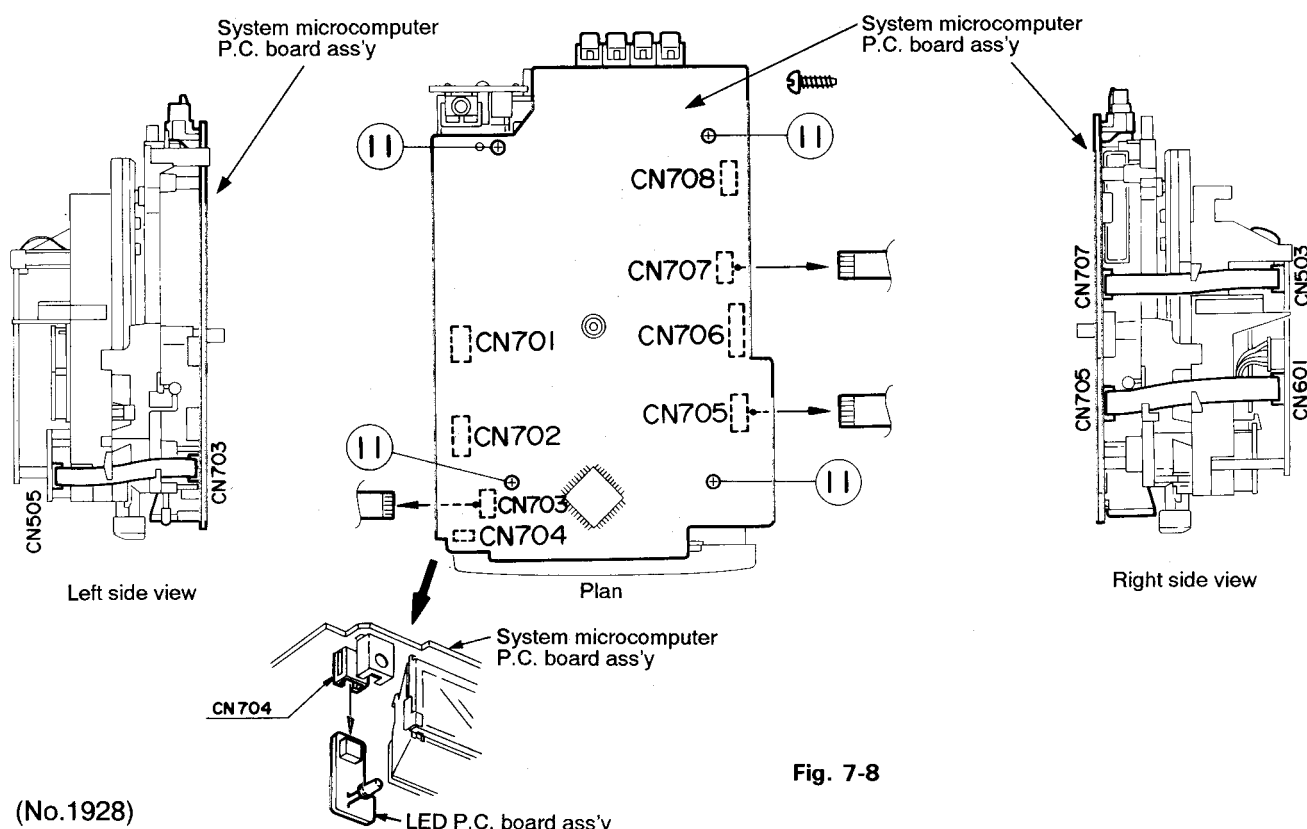

Fig. 7-8
■ How to Remove the System Microcomputer P.C. Board (Refer to Fig. 7-8)
3. Remove the four screws (11) retaining the system microcomputer P.C. board.